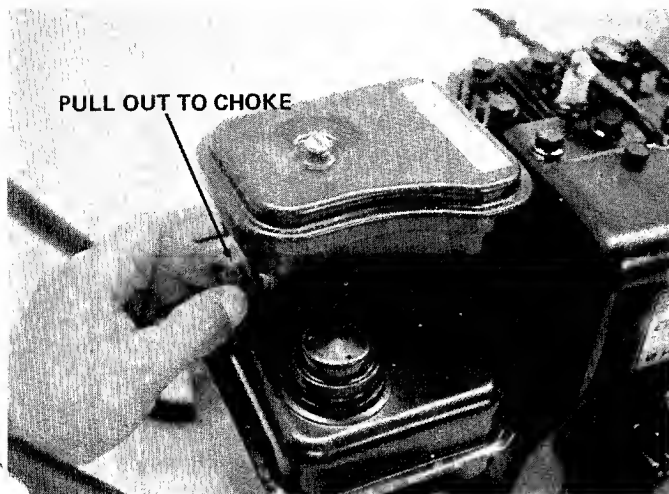

FIGURE 9
**Engine** - The engine has a choke. See figure 9.